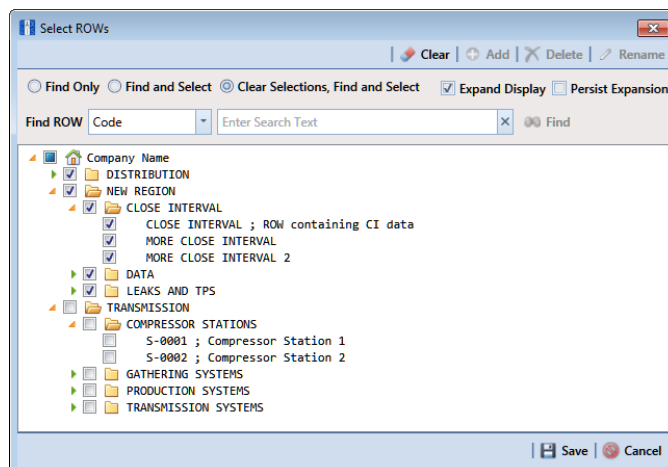

Figure 8-72. Select ROWs
- 1 Select one or more pipeline segments in the *Select ROWs* window (Figure 8-72). Click  **Save** to close the window.